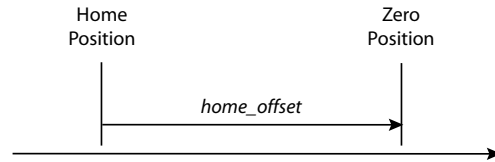

Figure 23: Home Offset
The home offset is the difference between the zero position for the application and the machine home position (found during homing). During homing the home position is found and once the homing is completed the zero position is offset from the home position by adding the home offset to the home position. All subsequent absolute moves shall be taken relative to this new zero position. This is illustrated in Figure 23. Offset can either be set in User Units (UU) by writing to variable #240, or in encoder counts by writing to variable #241. Setting a value for either variable #240 or #241 will result in the value being automatically calculated for the respective variable.